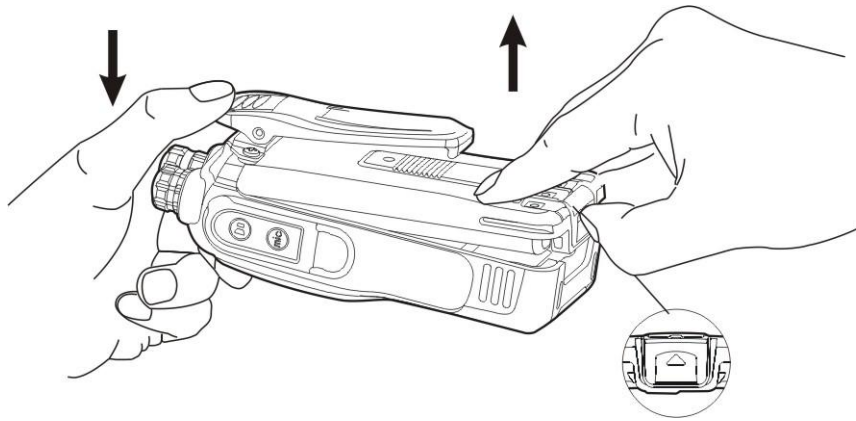

Figure 3
1. Please turn off the radio first. Then hold the top of radio main unit and press belt clip to make its tail turn up. Lift the battery latch in the direction of the arrow. (See figure 3 below)